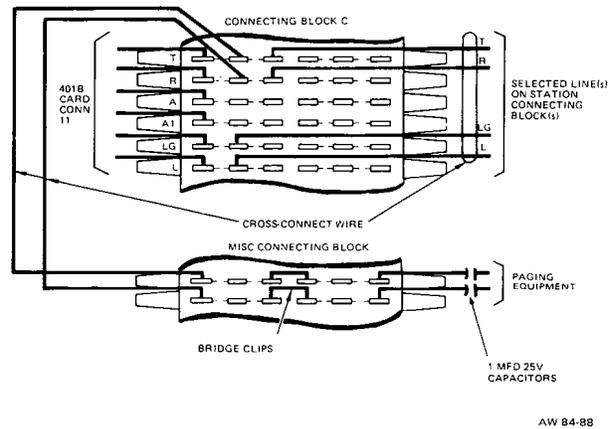

Figure 11: Connecting Details, Intercom KTU to Paging Equipment
- (1) Connect the T, R, L, and LG terminals to the T, R, L, and LG terminals for the selected line key on the assigned station connecting block. If required, multiple the connections to the T, R, L, and LG terminals of the line pickup key(s) for any other assigned station(s). Refer to Figure 11.